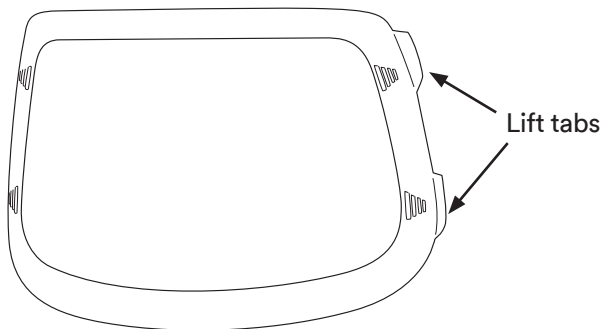

Fig. 12a
- a. Lift on the tabs on either side of the frame to remove it from the inner grinding welding helmet (Fig. 12a).